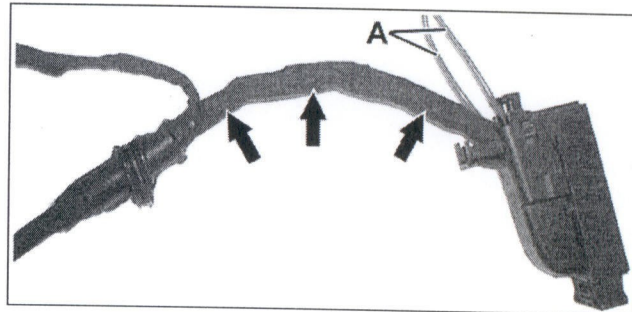

Figure 12
18. **Loosely** wrap the exposed SBC wire harness using fabric tape (arrows, Figure 12). **Do not** wrap the ground wiring harness (A) into the SBC wire harness.